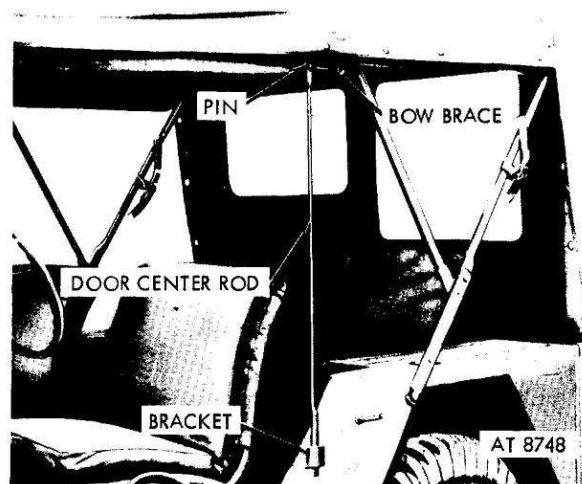

Figure 4-13. Installing the door center rods.
i. Install door center rods in brackets on body of the vehicle with pin on top, as illustrated by figure 4-13.